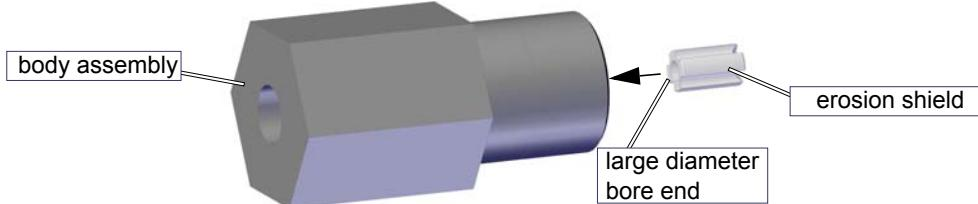

Figure 7-13
6. Install the new erosion shield into the body assembly, inserting the large diameter bore end in first (Figure 7-13).
7. Apply a thin film of Extreme Pressure Lube to the outside diameter of the tapered seat (Figure 7-13).